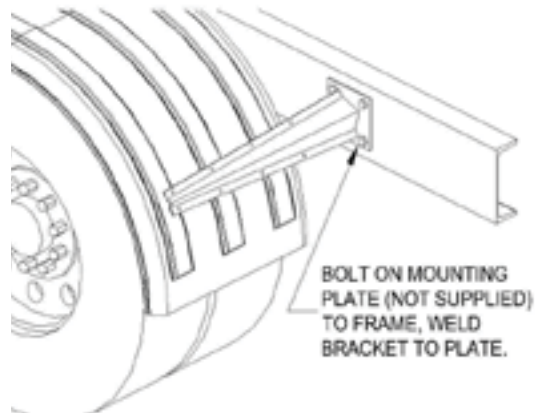

Figure 5
- B. Weld fender bracket to frame. You can bolt a plate (not supplied) to the frame and weld to that plate or just weld the brackets right to the frame if preferred. **Check your owners' manual before welding directly to the frame. Most manufactures suggest that you do not weld anything directly to the frame.** Make sure the brackets are aligned to the fender prior to welding. Plate should be a minimum of ¼" thick steel. See Figure 5.